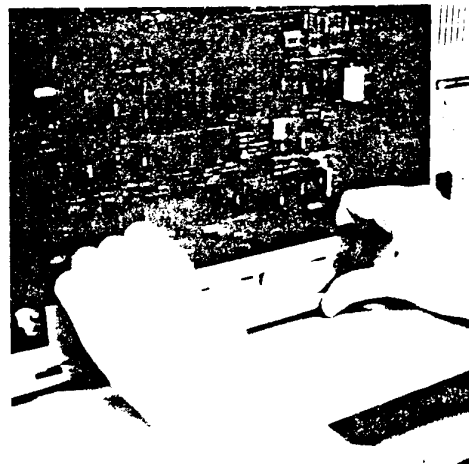

FIGURE 5
1. Brace your thumbs against the lower edge of the Lisa and pull hard on the bar that runs just above the row of connectors along the bottom edge of the card cage. (See Figure 5.)